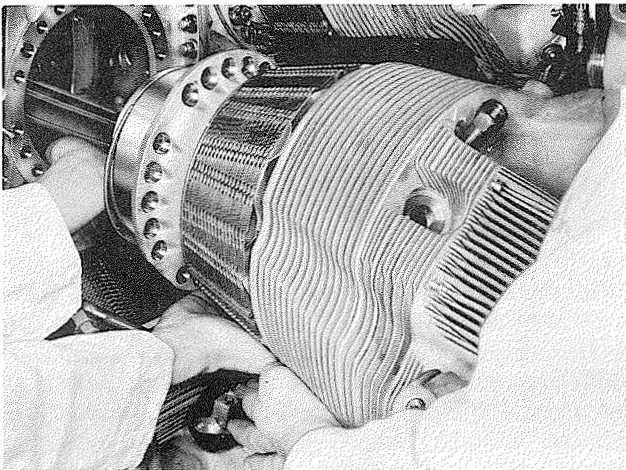

Figure 7-66. Removing Cylinder
c. Ensure that the piston is at the top of the cylinder, and remove the two remaining cap screws. Withdraw the cylinder far enough to expose the connecting rod. Hold the rod while the cylinder is removed to prevent it from hitting the crankcase main section. See figure 7-66.